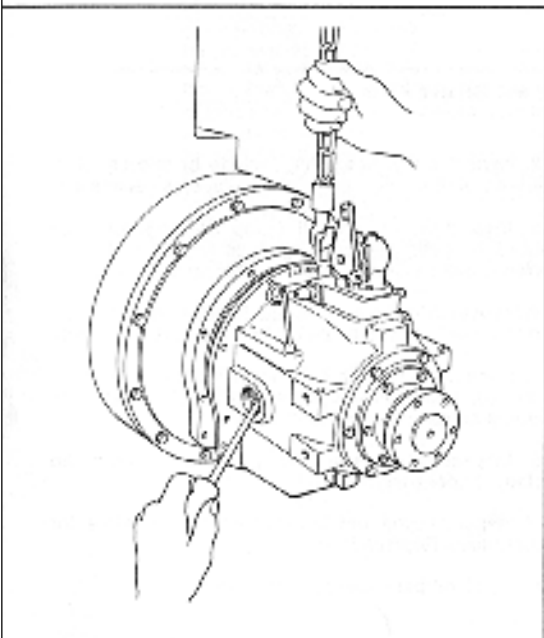

Figure 15. Maintaining clutch in place while removing transmission.
8. Insert screwdriver through breather hole or side inspection hole to hold clutch assembly inside forward drum (see fig.15). Carefully move housing aft and away from oil dam.